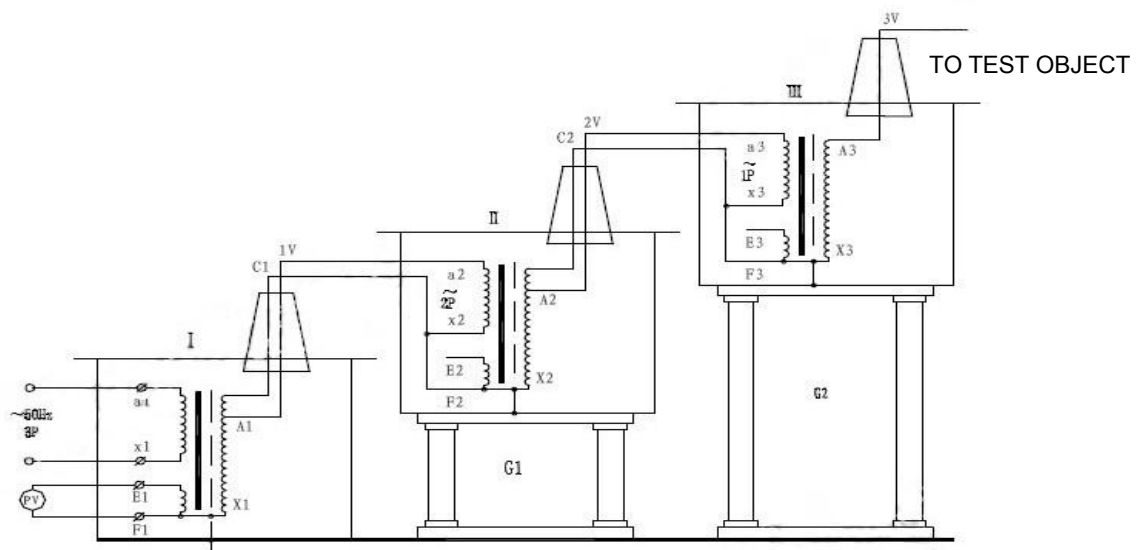

Figure 5: Three test transformer cascade wiring diagram
2. Figure 5 shows wiring diagram of 3 sets testing transformers connecting in series to get more higher voltage. Cascade high voltage test transformers has great advantages, the entire test devices consists of several single test transformers are easy for transportation, and can be used for several kinds of solutions. In Figure 5 there is a excitation winding A1 C1 C1 and A2, C2 in the first stage and second stage test transformers, when low-voltage power is applied to the test transformer primary winding a1x1 on first stage transformer I, all the transformer I II III output voltage is V. Excitation winding A1, C1 supplying power to the second stage transformer II, the second stage transformer excitation winding A2 C2 supplying power to primary winding on the third stage test transformer III. Second and third grade test transformer body is in the position with voltage to ground at 1V and 2V, insulating to the ground, while transformer I is grounded, thus test transformers rated output to ground is respectively 1V, 2V, 3V; rated capacity 3P, 2P, 1P.